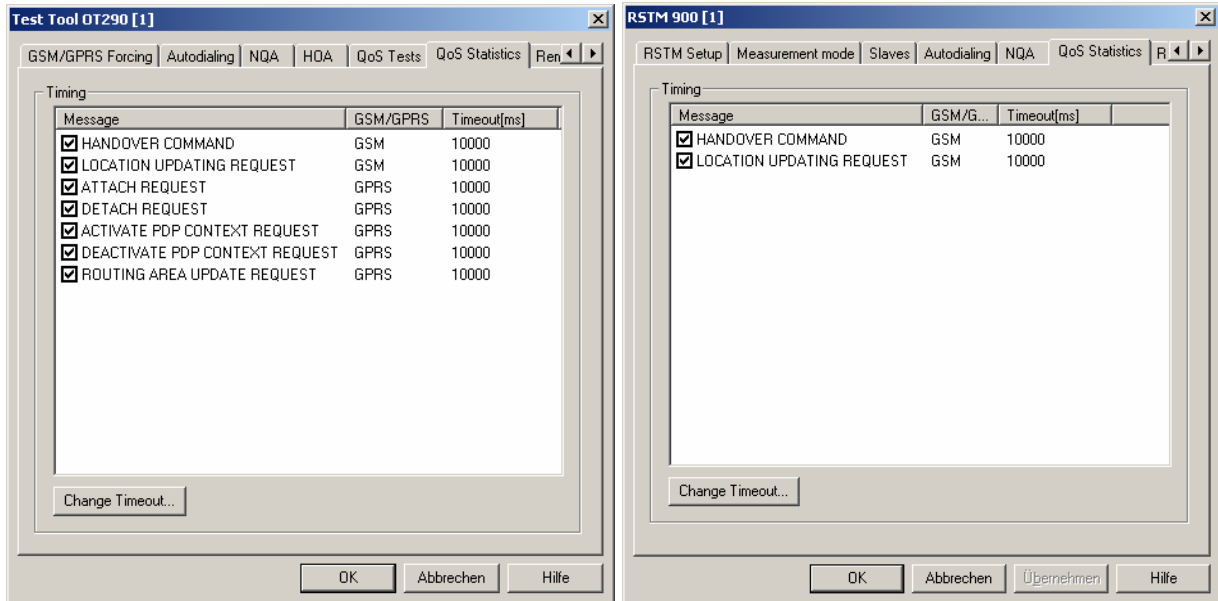

Fig. 6-22 Driver Configuration – QoS Statistics tab
*To be recorded and evaluated, the actions must be enabled in the QoS Statistics tab of the driver configuration menu; see Fig. 6-22 on p. 6.56.*